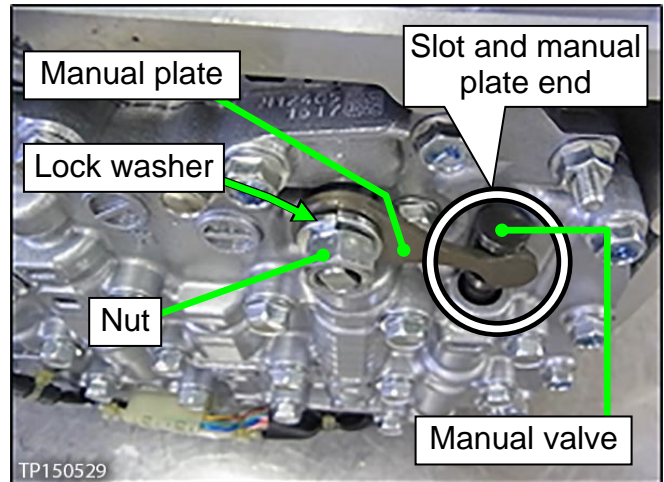

Figure 10
10. Install the manual plate, lock washer, and nut (Figure 10).